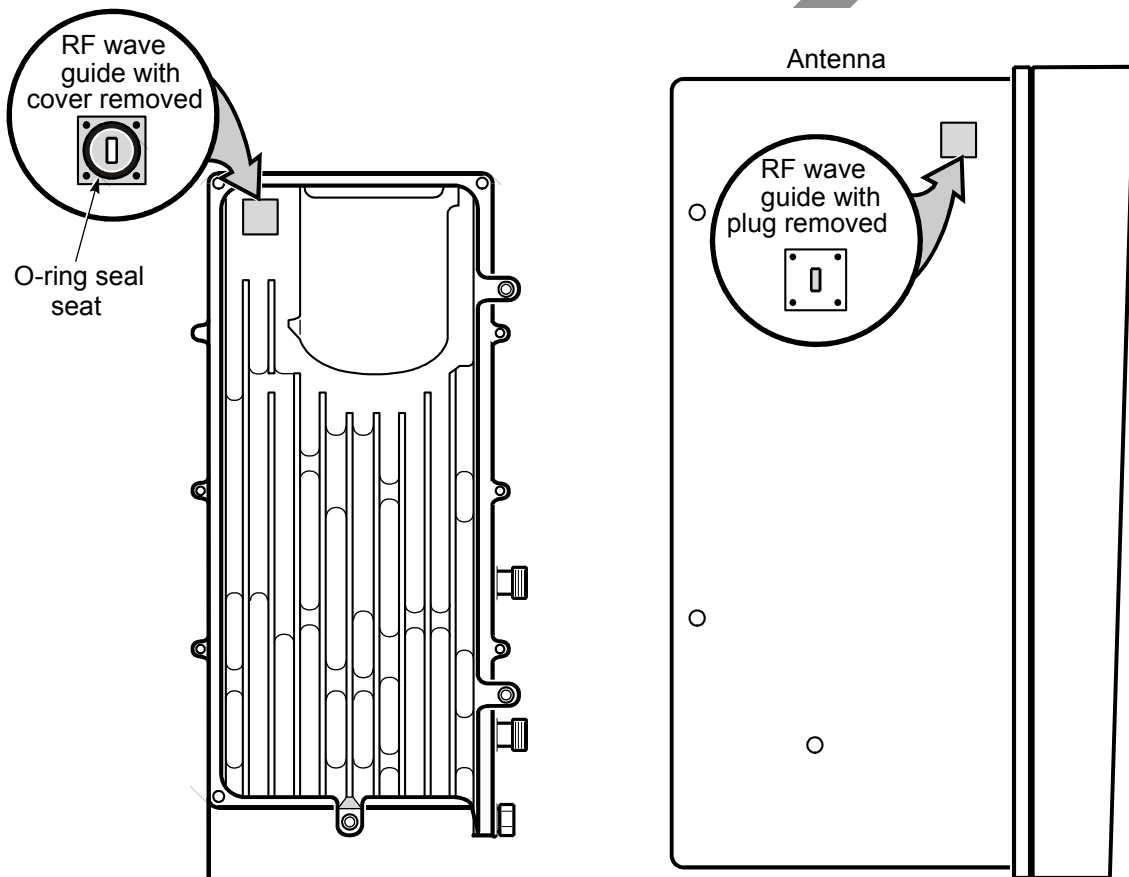

Figure 9 – Location of the wave guide plugs and covers
1. Remove the RF wave guide cover from the X-Pol RBS Tx or X-Pol RBS Rx, and remove the RF wave guide plug from the antenna. *Figure 9* shows the location of the cover and the plug.